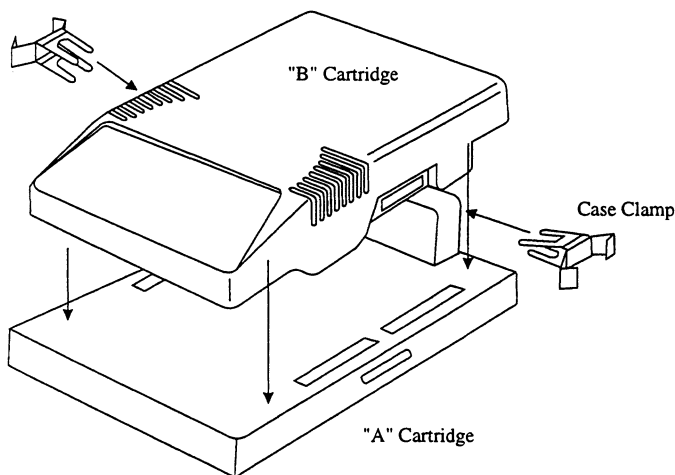

Figure 12 : Case Clamp Installation
2. To remove the existing “B” cartridge from the “A” cartridge, pull the old case clamps apart (see Figure 12). Carefully remove the old “B” cartridge and install the new “B” cartridge. Re-install the case clamps.